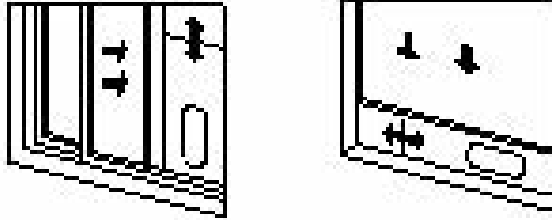

Fig. 5
- ▶ open the window halfway and mount the sealing plate from the kit vertically or horizontally (18).
- ▶ move the elements of the sealing plate, adjust the distance between the plates so that they tightly fill the space created after sliding the window (Fig. 5), then lock with a screw, or cut the plate to an appropriate length without a gap